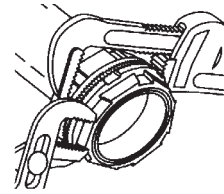

Figure 2
- 2. Locknut design** with peripheral slots and a hexagonal/angled spline spaced every 30° enables easy application of torque with wrench or hammer and screwdriver. (See Figures 2 & 3)